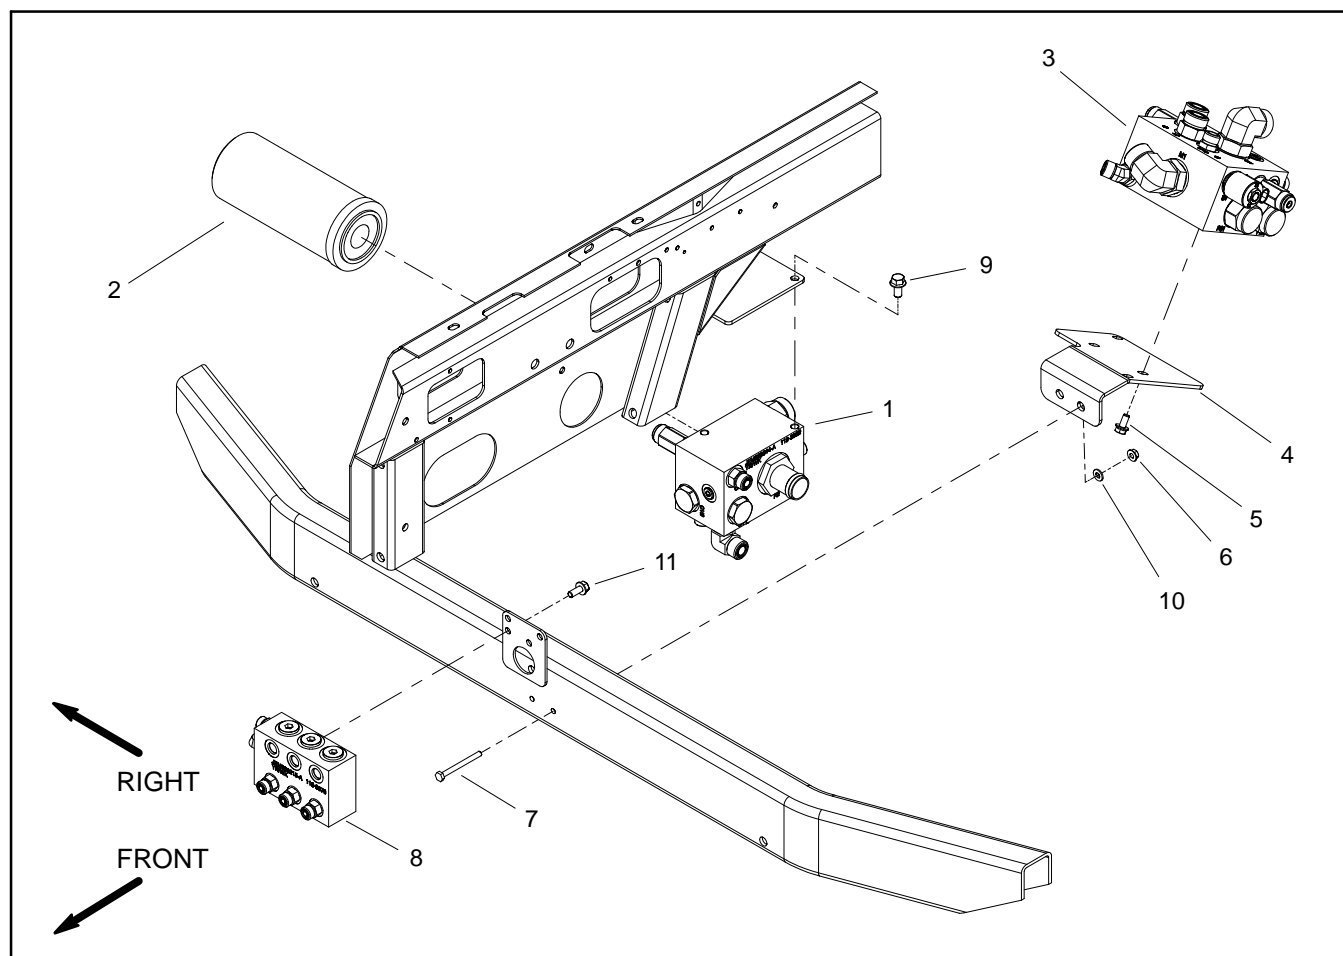

Figure 91
## Removal (Fig. 91)
5. Remove hydraulic manifold from the frame using Figure 91 as guide.
## Installation (Fig. 91)
2. Install hydraulic manifold to the frame using Figure 91 as guide.